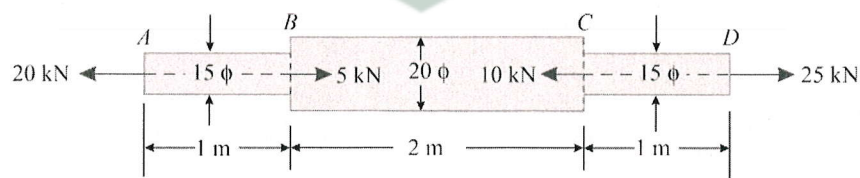

Fig. 2
- b) A steel bar ABCD 4 m long is subjected to forces as shown in fig. 2. Find the elongation of the bar if E for the steel is 200 GPa. All the diameters are in mm.